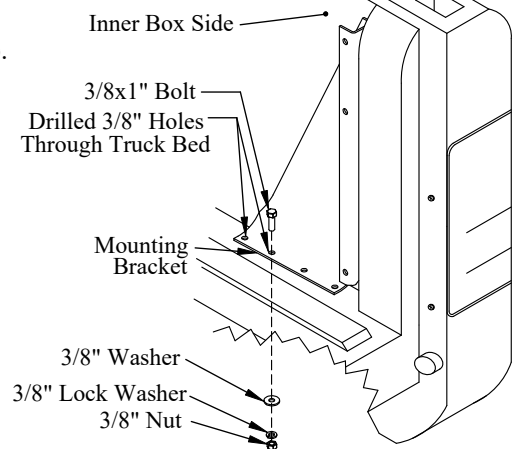

Figure 11: Mounting bracket.
Choose two of the four holes provided with no obstructions on the underside (Figure 11).
- (2) 3/8"x1" hex head bolts on the top-side (Figure 11).
- (2) washers, (2) lock washers, and (2) hex nuts on the under-side (Figure 11).